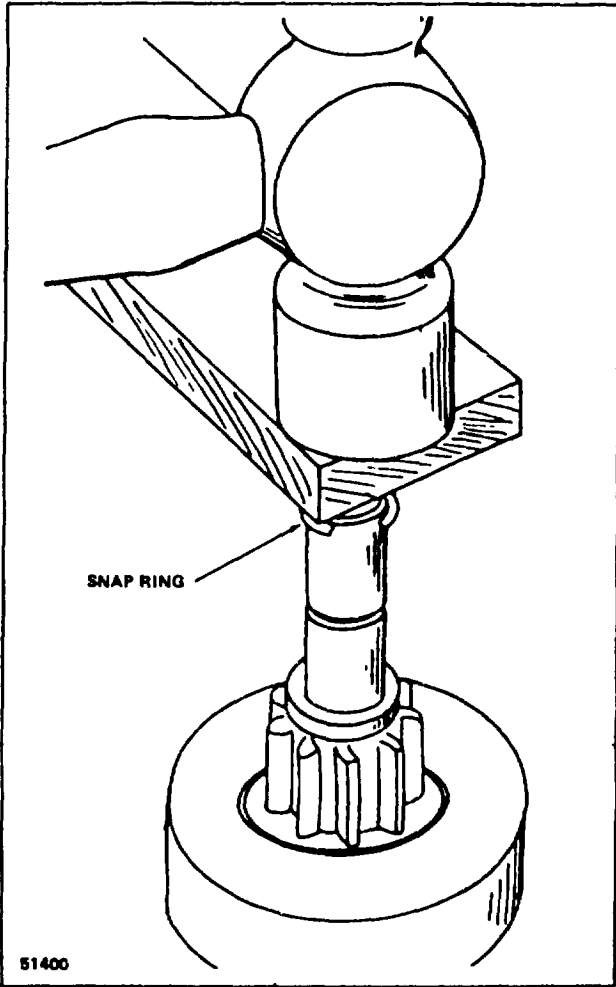

Figure 59. Forcing Snap Ring Over Shaft
- b. Place the snap ring on the end of the shaft. With a piece of wood on top of it, force the ring over the shaft with a light hammer blow (See Figure 59), then slide the ring down into the groove.